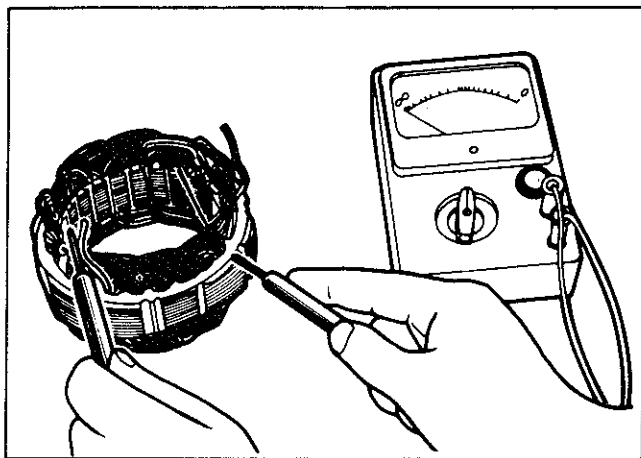

Fig. 14—Checking stator windings for grounds
(2) Test the stator windings with a low voltage test lamp (up to 40 volts) for grounding by connecting the test lamp between any stator lead and the frame. The windings are grounded if the lamp lights. This test can also be conducted using an ohmmeter, a low reading indicates grounded windings (see Fig. 14).